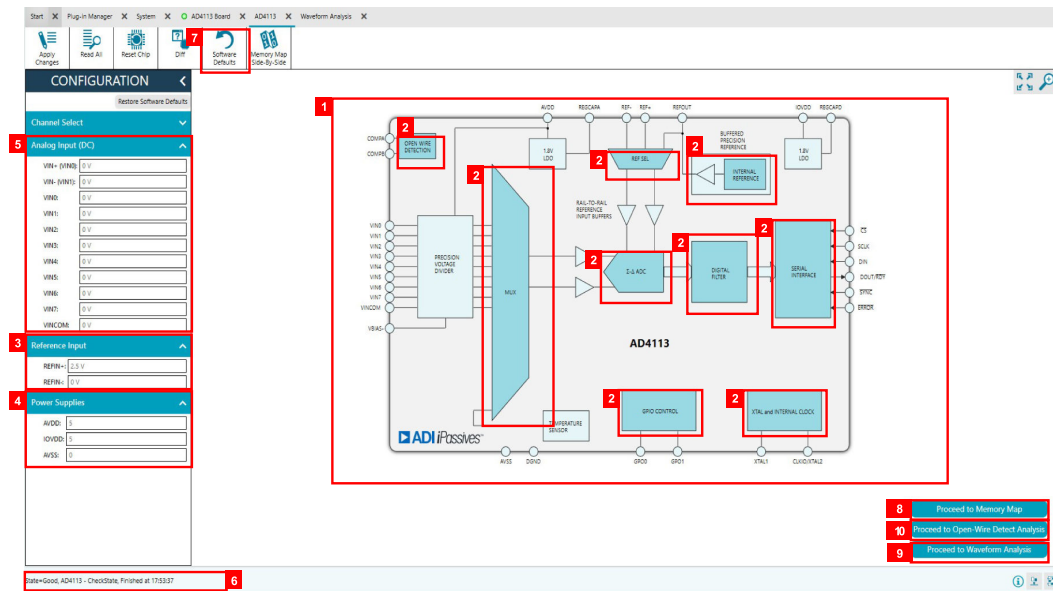

Figure 9. Chip View/Configuration Tab
The functional block diagram of the AD4113 (Label 1 in Figure 9) shows each of the functional blocks within the AD4113. Clicking a functional block on this diagram opens the configuration pop-up window for that block.
Each block has a pop-up window (Label 2 in Figure 9), which opens a different window to configure the relevant block.
There are three external parameters that are set by the EVAL-AD4113ARDZ evaluation board but must be entered into the software: the external reference (Reference Input, Label 3 in Figure 9), AVDD, and AVSS (Power Supplies, Label 4 in Figure 9). The external reference on the EVAL-AD4113ARDZ evaluation board is set to 2.5V by using the ADR4525. If using a different external reference voltage, change the value in the software to ensure correct calculation of results in the Waveform and Histogram tabs in the Waveform Analysis window. The Analog Input (DC) (Label 5 in Figure 9) is used in setting the analog inputs when using the integrated active functional model.
The status bar (Label 6 in Figure 9) shows status updates.
Click Reset (Software Defaults, Label 7 in Figure 9) to perform a software reset of the AD4113. There is no hardware reset pin on the AD4113. To perform a hard reset, remove power from the board. The software reset has the same effect as a hard reset.
Opens the Memory Map tab (Label 8 in Figure 9).
Opens the Waveform tab (Label 9 in Figure 9).
Opens the Open-Wire Detect Analysis tab (Label 10 in Figure 9).